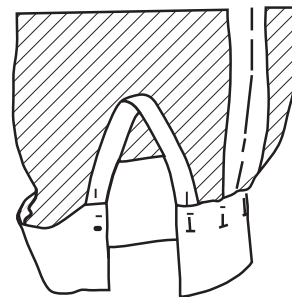

Figure 21
3. Turn sleeve seam into band. Fold the remaining edge of band section under on a 1/2-in. line and press. Pin folded edge to cover the stitching line (about 1/8 in. overlap) (Figure 21).